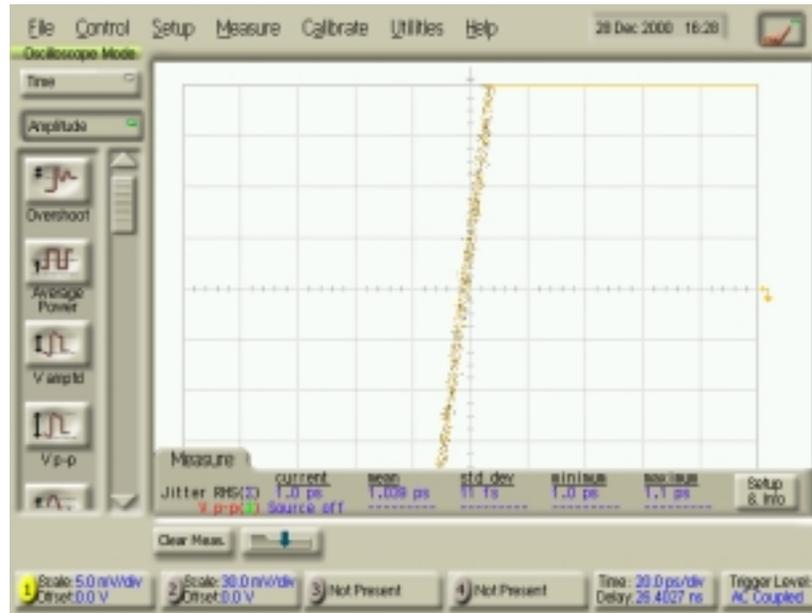

Figure 2-17. Divided Trigger Screen
- 18 Adjust the delay knob counterclockwise so that the first rising zero crossing point intersects the center of the display. Refer to Figure 2-17 below.